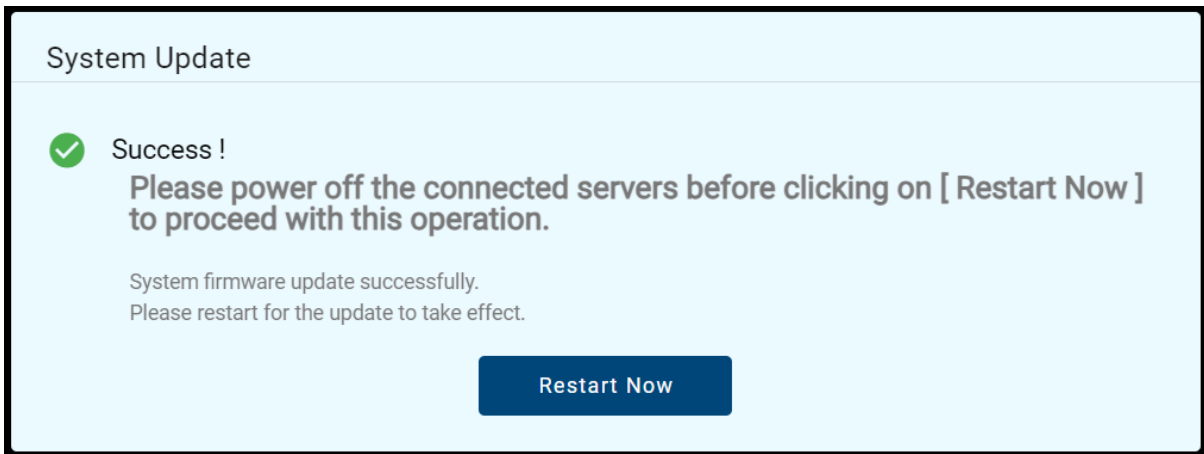

Figure 84. Firmware Update Success Prompt with Restart Now Option
- Once the update finishes, click Restart Now to reboot the system (refer to Figure 84).